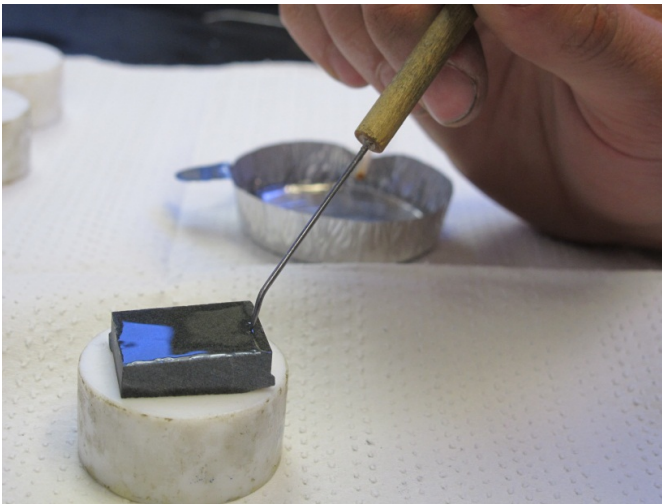

Figure 3
5. Let it sit for a minute or two and watch if any bubbles form. If there are bubbles get them out with the metal point tool (Fig. 3).